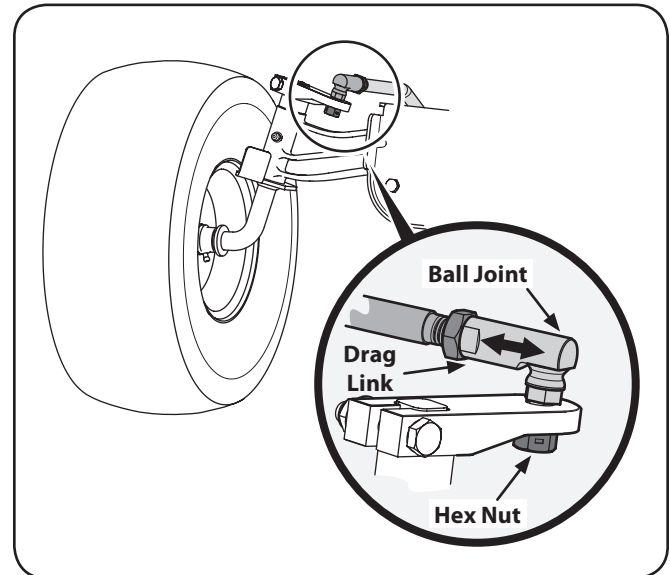

Figure 6-6
1. Remove the hex nut on the top of ball joint. See Figure 6-6.